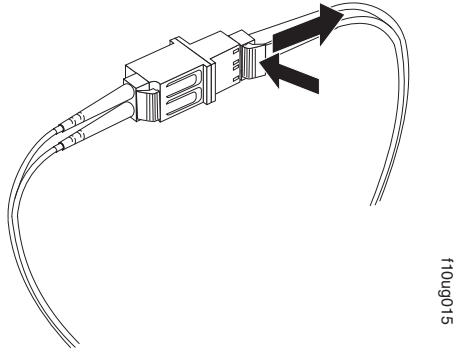

Figure 35. Removing the LC-LC fibre-channel cable from an LC-SC fibre-channel cable adapter
2. Carefully pull on the connector to remove it. Make sure you grasp the connector and not the cable when removing the LC-LC cable from the LC-SC cable adapter as shown in Figure 35 on page 64.